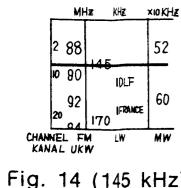

Fig. 14 (145 kHz)
| (2) | " | 145 kHz | [Fig. 14] | " | L ₁₇ (OSC Coil) (* 1)L ₁₂ (ANT Coil) |